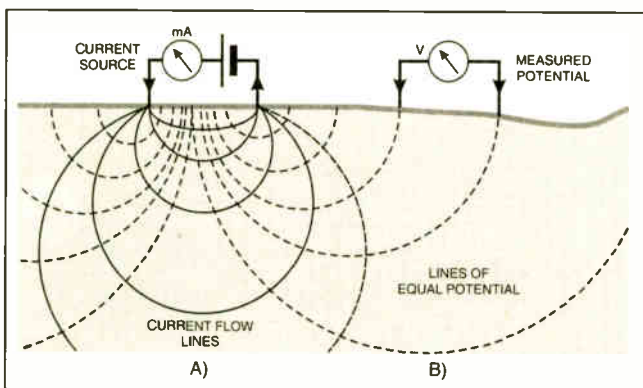

Fig.2. How current flowing between two probes is detected by a second pair.
main field, as you will see presently from Fig.2.
Most of the favoured ones all use four probes – two for transmission (TX), and two for reception (RX). The righthand section of Fig.2 shows one way in which the second pair of probes can be used. Anthony Clark says that there are also some techniques that use five probes – with push-pull TX across two and the fifth becoming a grounded reference perhaps?